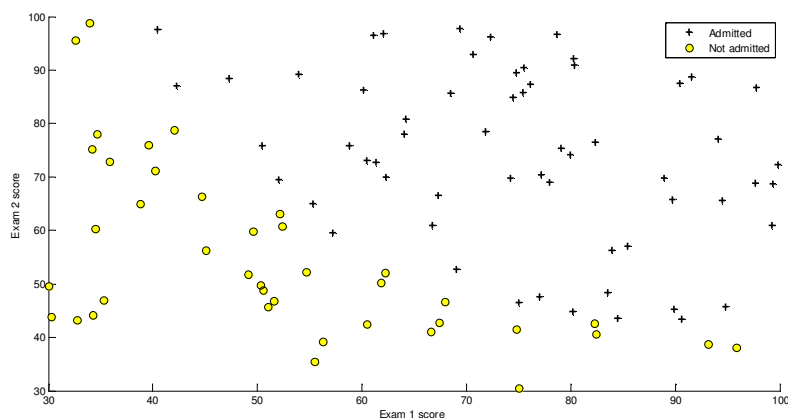

Fig. 1
The file *ex2data1.txt* contains the dataset for our logistic regression problem. The first and the second columns are the scores from the exams, the third column indicates if the student was admitted (1) or not admitted (0). Load the data into variables *X* (the first and the second columns) and *y* (the second column). Complete the *plotData.m* function to create a scatter plot of data. The axes are the two exam scores, and the positive and negative examples are shown with different markers, Fig.1